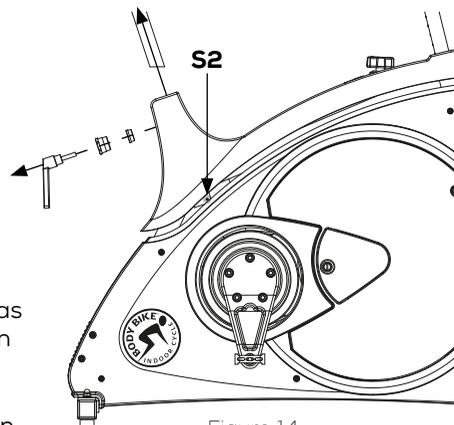

Figure 14
4) Carefully lift up the top cover as shown on figure 14. Adjust the right hand side screw marked S2 with a 2.5 mm Allen wrench.